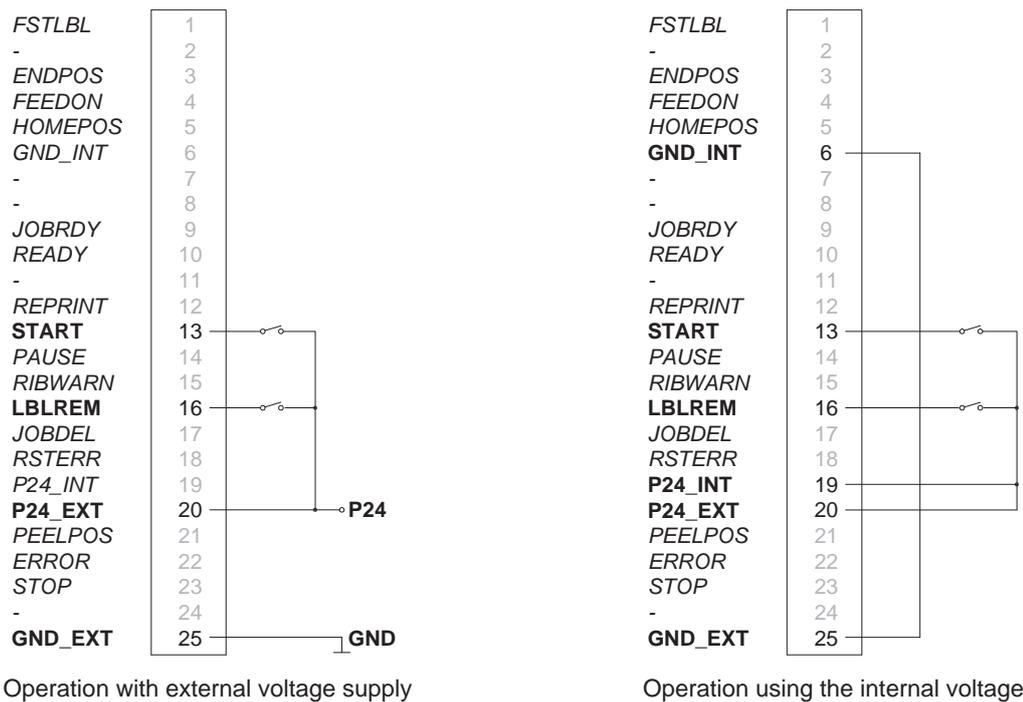

Figure 29 External circuit for peeling-off on demand without present sensor with two signals
- External circuit as shown in Figure 29